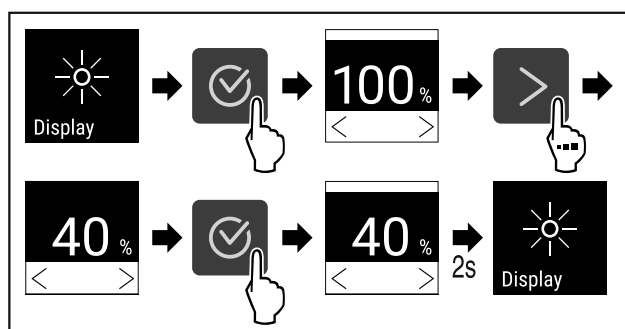

Fig. 72
- Complete the steps (see Fig. 72).